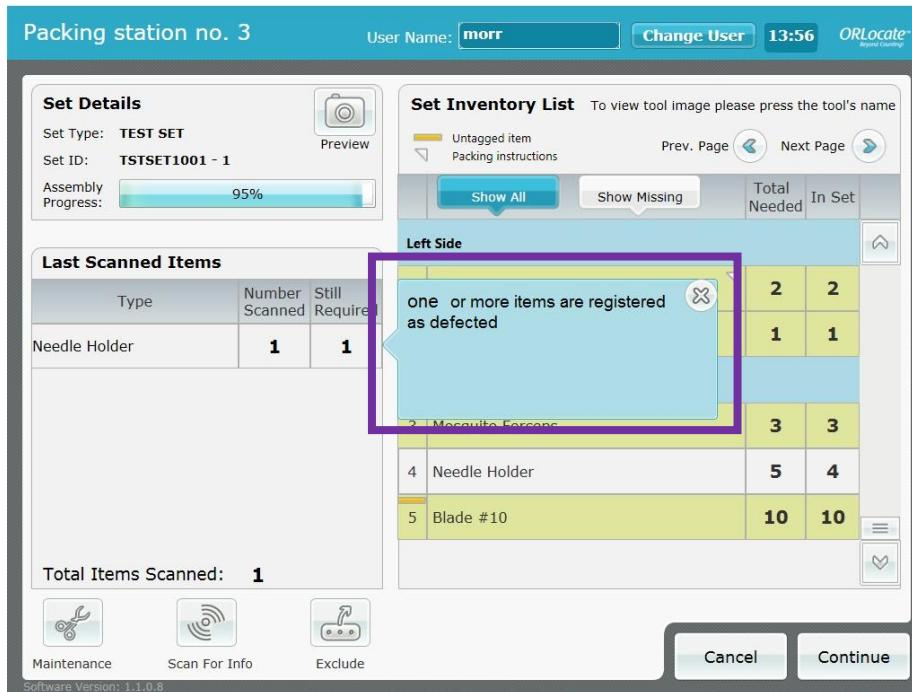

Figure 18
4.1. If an RFID tagged item was registered in the ORLocate **operating room** system as defected, it will appear as defected in the ORLocate Packing system once it is scanned (figure 18). This item can't be packed and should be sent to maintenance using the "maintenance" button as described in section 3.4.1.